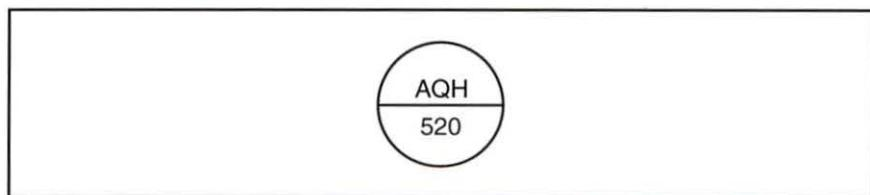

Figure 55. Instrument Tag
13. Determine the measured variable indicated in the instrument tag in figure 55.